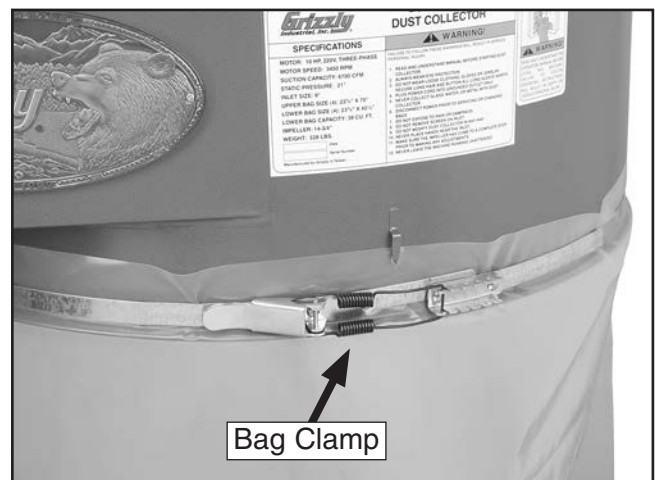

Figure 19. Lower collection bag secured to collector.
- Wrap the bag clamp around the collector, position it between the bottom lip of the collector and the hooks, and fasten the bag clamp to secure the bag to the collector (see **Figure 19**).